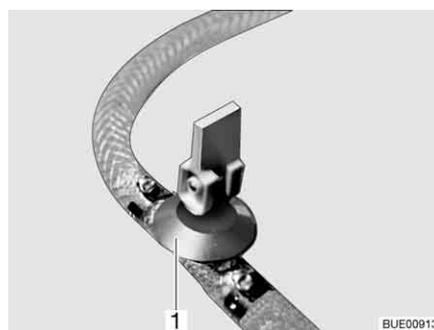
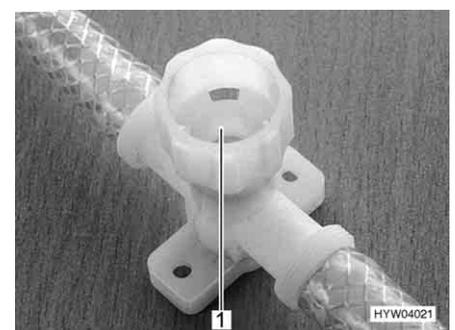

Fig. 174 Drain cock (with rocking lever)
Fig. 175 Drain cock (with twist cap)
- Close all drain cocks. To do this, position the drain cock's rocking lever (Fig. 174,1) horizontally or turn the drain cock's cap (Fig. 175,1) in a clockwise direction.